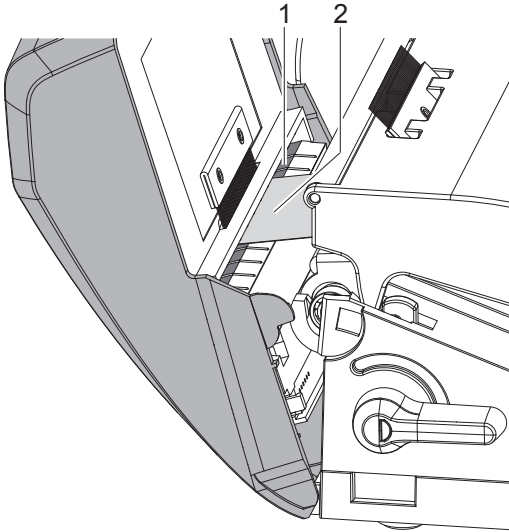

Figure 3 Guiding labels and tube into the cutter unit
- ▶ Gently pull the cutter unit forward as shown in Figure 3,